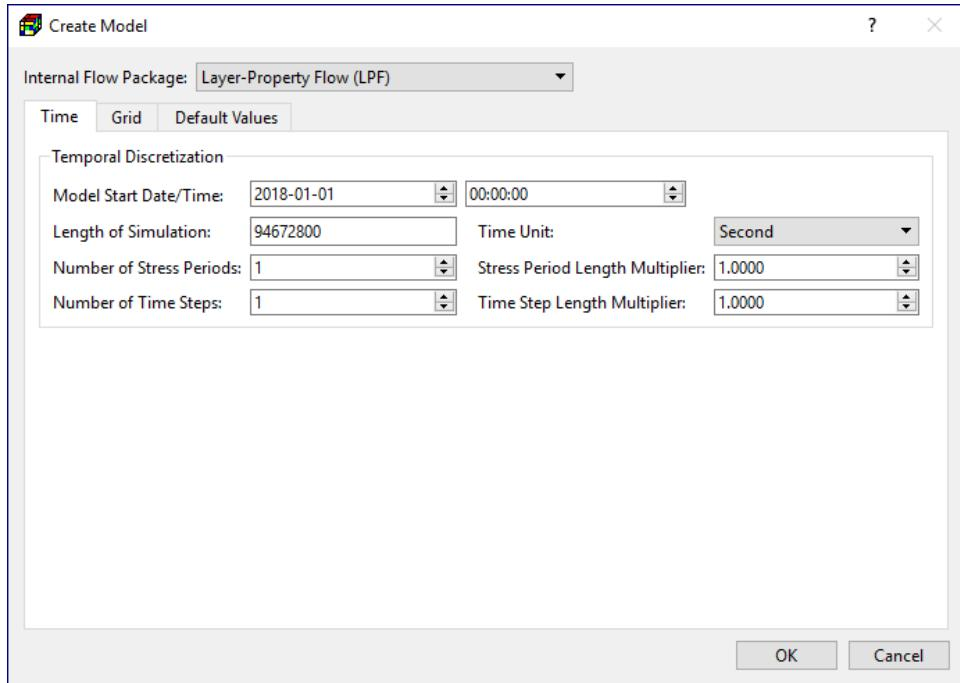
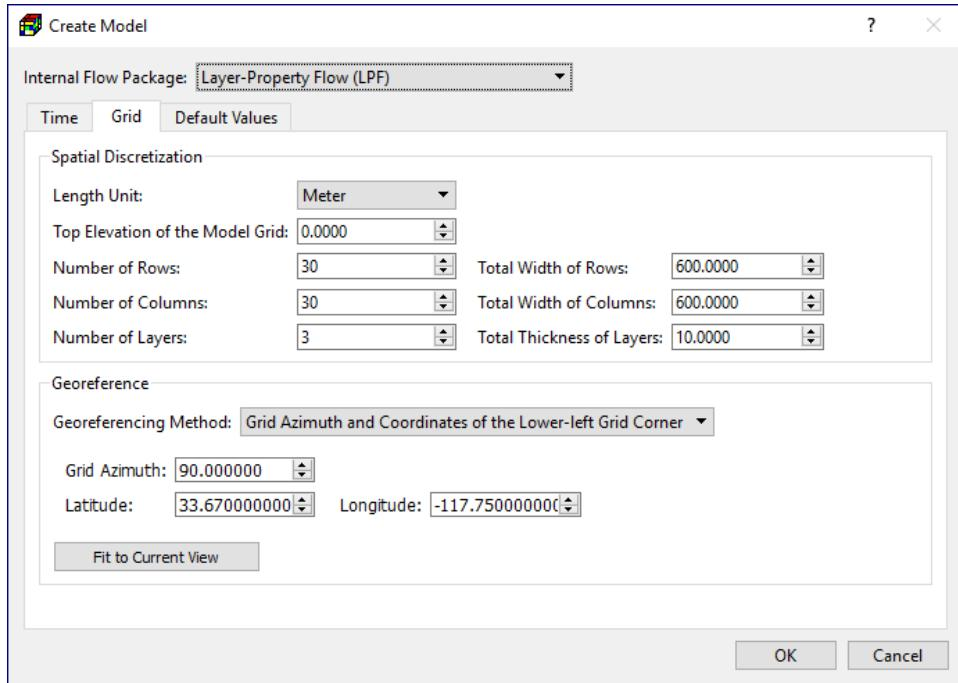

Figure 3. The Time tab of the Create Model dialog box
Figure 4. The Grid tab of the Create Model dialog box
4. As soon as the file is saved, the Create Model dialog box appears. We use the Time tab (Figure 3) to define the temporal discretization and use the Grid tab (Figure 4) to define the spatial discretization of the model. All values may later be modified when necessary. For this tutorial, the following values are used. The default values are used if they are not mentioned below.
- Time Tab (Figure 3):
- Grid Tab (Figure 4):